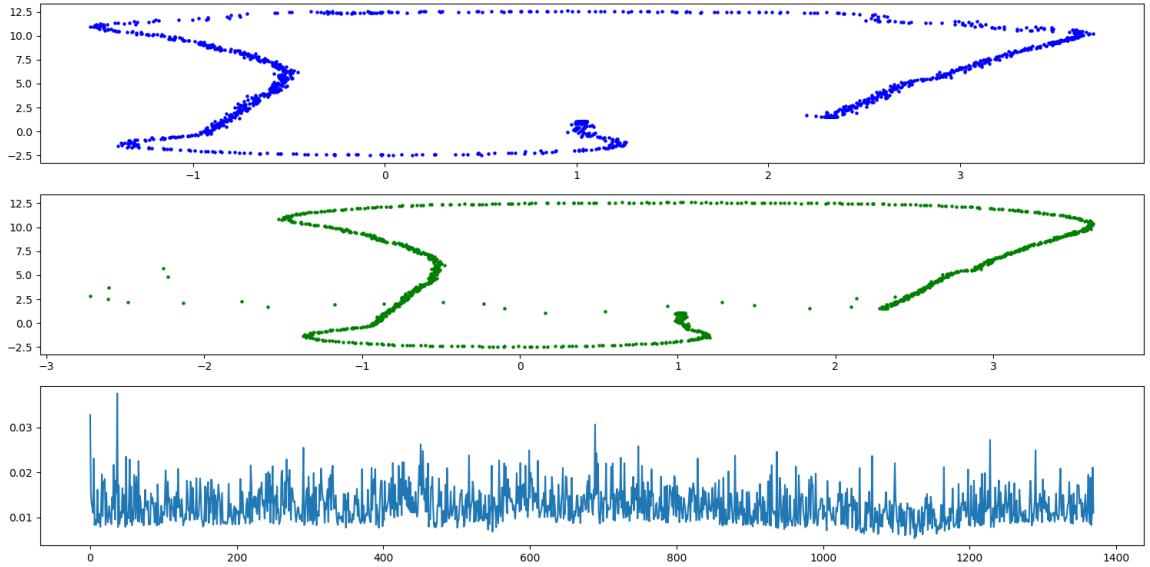

Figure 3: Better results
3. Robustness to noise and faster convergence to accurate estimates as shown in figure 3